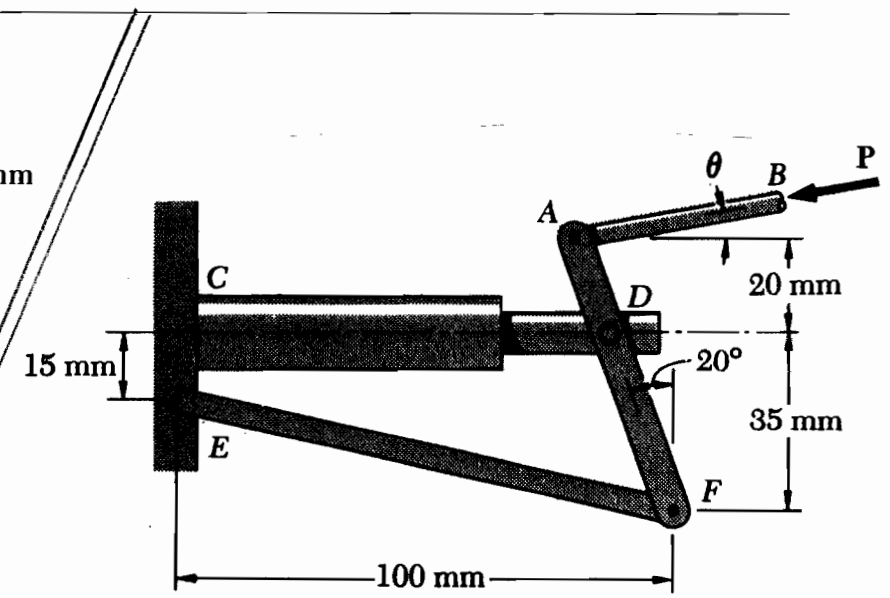

Fig. P2
- 2- A hydraulic cylinder has been locked in the position shown in Fig. P2. Knowing that  $\theta = 10^\circ$ , determine